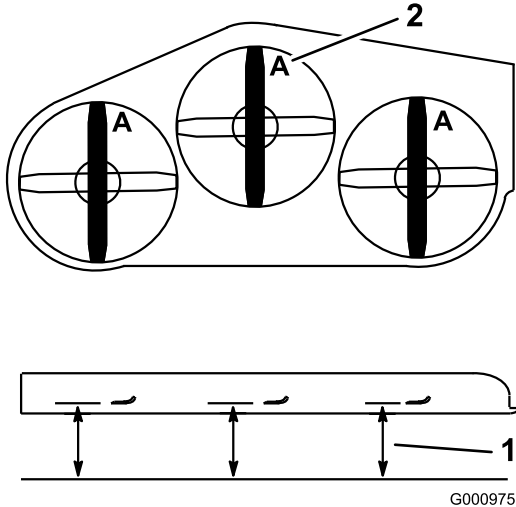

Figure 82
4. Measure at **A**, and from a level surface to the cutting edge of the blade tips (Figure 82).